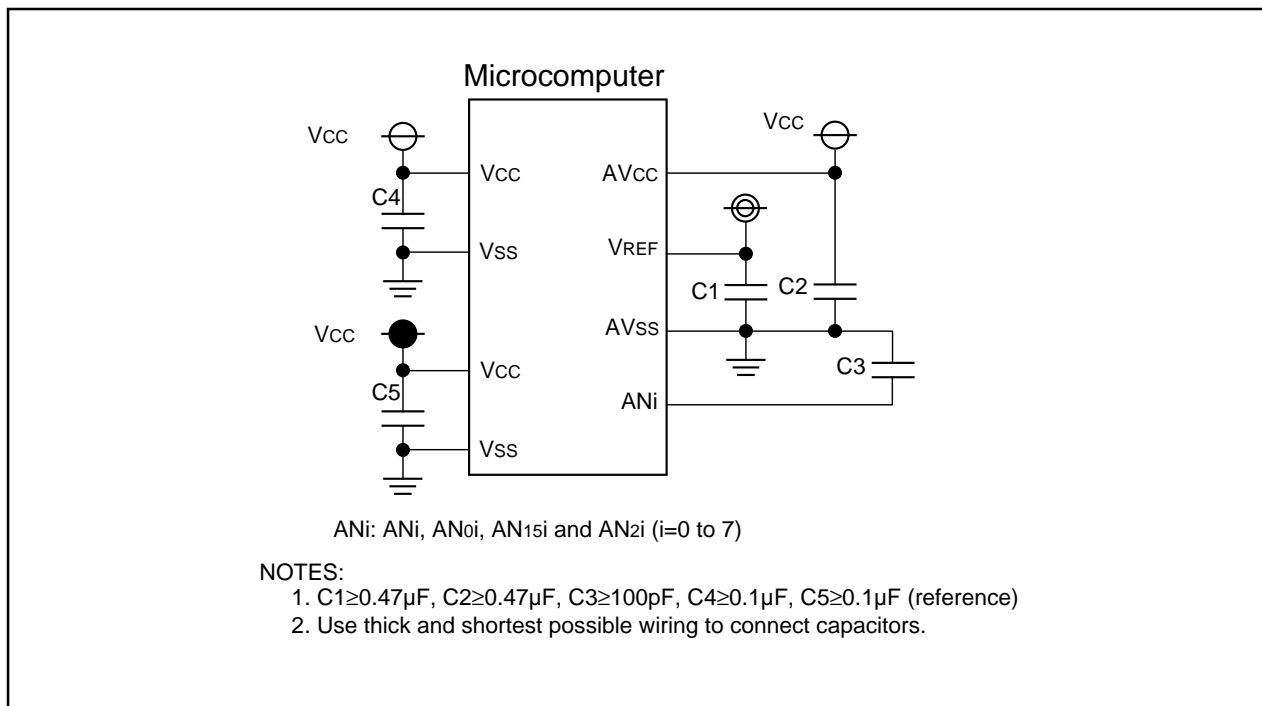

Figure 27.4 Use of Capacitors to Reduce Noise
- Insert capacitors between the AVCC pin, VREF pin, analog input pin AN_{ij} (i=none, 0, 2, 15; j=0 to 7) and AVSS pin to prevent latch-ups and malfunctions due to noise, and to minimize conversion errors. The same applies to the VCC and VSS pins. Figure 27.4 shows the use of capacitors to reduce noise.